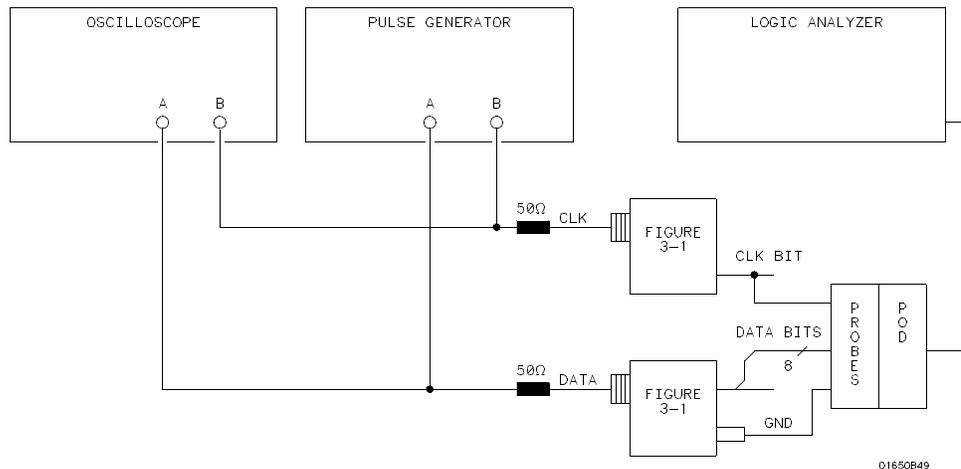

Figure 3-21. Setup for Data Test 5
1. Connect the HP 1650B/51B and test equipment as in figure 3-21 by connecting channels 0-3 and 8-11 of the pod under test to the test connector. On the slave clock transition the four bits of the lower byte are transferred to the logic analyzer, and on the master clock transition the four bits of the upper byte are transferred to the logic analyzer.